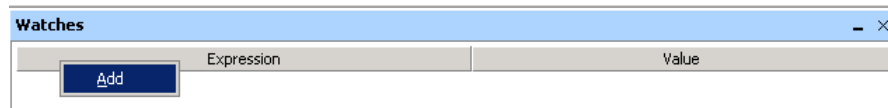

Figure 40. The Watches window.
2. Right-click on the gray bar, as illustrated in Figure 40, and click **Add**.